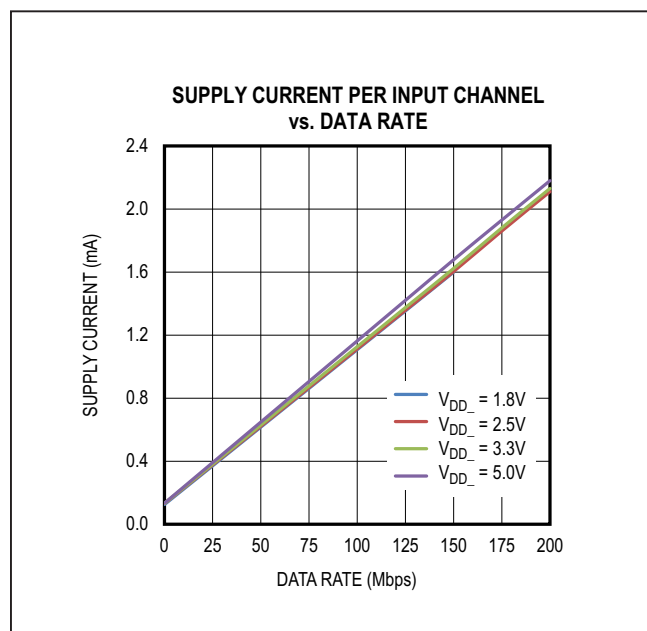
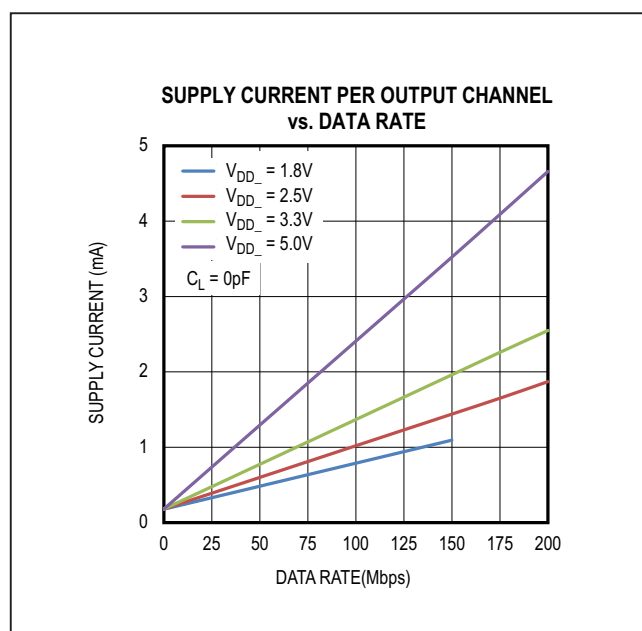

Figure 9. Supply Current Per Input Channel (Estimated)
Figure 10. Supply Current Per Output Channel (Estimated)
The required current for a given supply ( $V_{DDA}$  or  $V_{ddb}$ ) can be estimated by summing the current required for each channel. The supply current for a channel depends on whether the channel is an input or an output, the channel's data rate, and the capacitive or resistive load if it is an output. The typical current for an input or output at any data rate can be estimated from the graphs in Figure 9 and Figure 10. Please note the data in Figure 9 and Figure 10 are extrapolated from the supply current measurements in a typical operating condition.
The total current for a single channel is the sum of the “no load” current (shown in Figure 9 and Figure 10) which is a function of Voltage and Data Rate, and the “load current,” which depends on the type of load. Current into a capacitive load is a function of the load capacitance, the switching frequency, and the supply voltage.
- Channel 1 is an input channel operating at 2.5V and 20Mbps, consuming 0.33mA, estimated from Figure 9.
- Channel 2 and 3 are input channels operating at 2.5V with DC signal, consuming 0.13mA, estimated from Figure 9.
- Channel 4 is an output channel operating at 2.5V and 100Mbps, consuming 1.02mA, estimated from Figure 10.
- Channel 1 is an output channel operating at 3.3V and 20Mbps, consuming 0.42mA, estimated from Figure 10.
- Channel 2 and 3 are output channels operating at 3.3V with DC signal, consuming 0.18mA, estimated from Figure 10.
- Channel 4 is an input channel operating at 3.3V and 100Mbps, consuming 1.13mA, estimated from Figure 9.